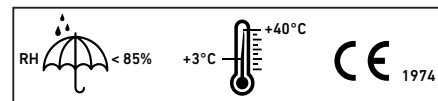

Fig. 1
- a) Swivel the earmuff at an angle of 90° to the bracket arm. (Figure 1)
The PROTOS® earmuff hearing protector should be protected against extreme temperatures, direct sunlight and humidity during storage. For this, see the values given in Figure 1. Storage with protection against UV radiation and heat, e.g. in the delivery packaging, prevents the material from ageing. If the sound insulation inserts have become damp, they dry best if they are stored with the earmuff opening facing upwards. Also make sure that the pads are not pressed during storage and that the bracket is not stretched.